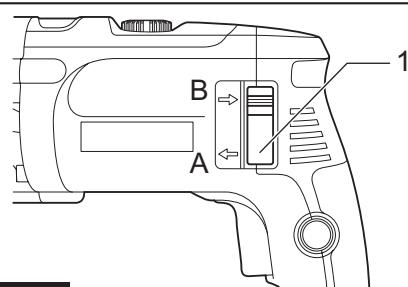

Fig.4
► Fig.4: 1. Reversing switch lever